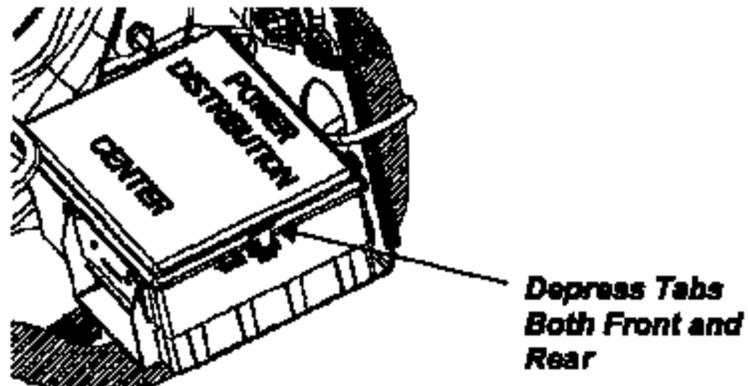

Figure 2
- B. Remove Power Distribution Center (PDC) top by depressing tabs on front and rear of box lid (See figure 2).